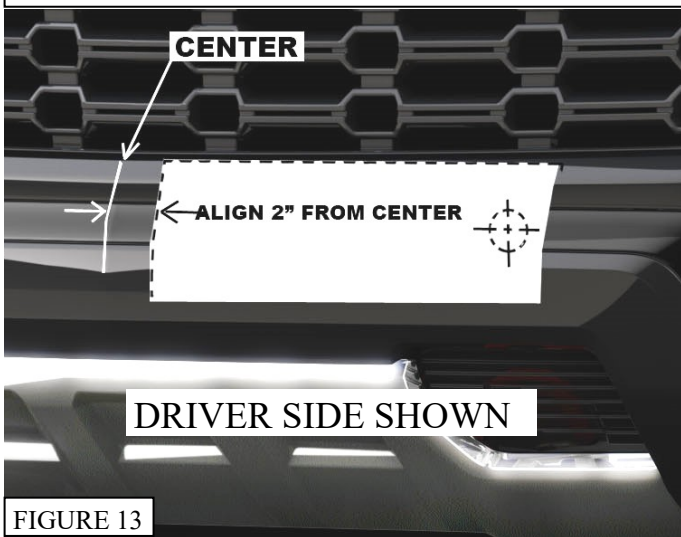

FIGURE 13
19. Using the provided templates, cut at the dotted lines and place the indicated side at 2" from the center of the fascia and the top edge at the lower edge of the grill, carefully drill a 2" hole at each side of the fascia. (**Figure 13**) Carefully clean the hole edges.